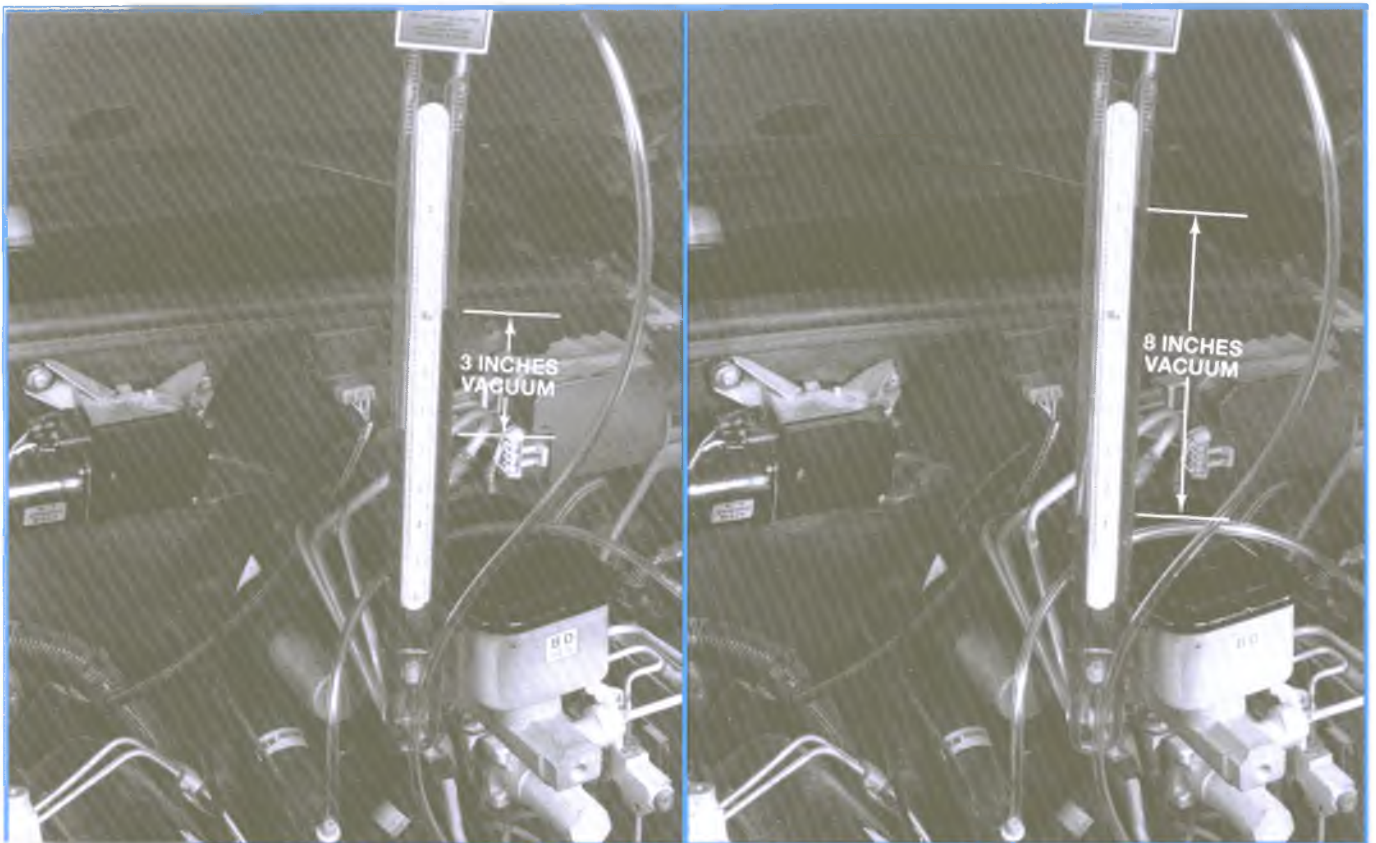

Figure 6-23, Crankcase Pressure Check at 2,000 rpm
5. Run the engine at 2,000 rpm, observing the water manometer reading (see Figure 6-23):